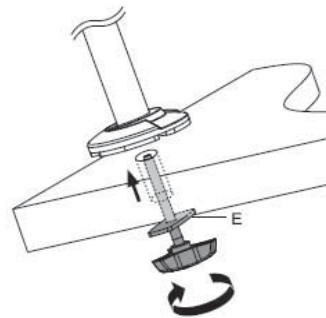

Figure 7
5. Insert the clamp screw into the Grommet Clamp (E). Position the Tube Support on the mounting surface, then secure it using the Grommet Clamp (E) and clamp screw, see Figure 7.